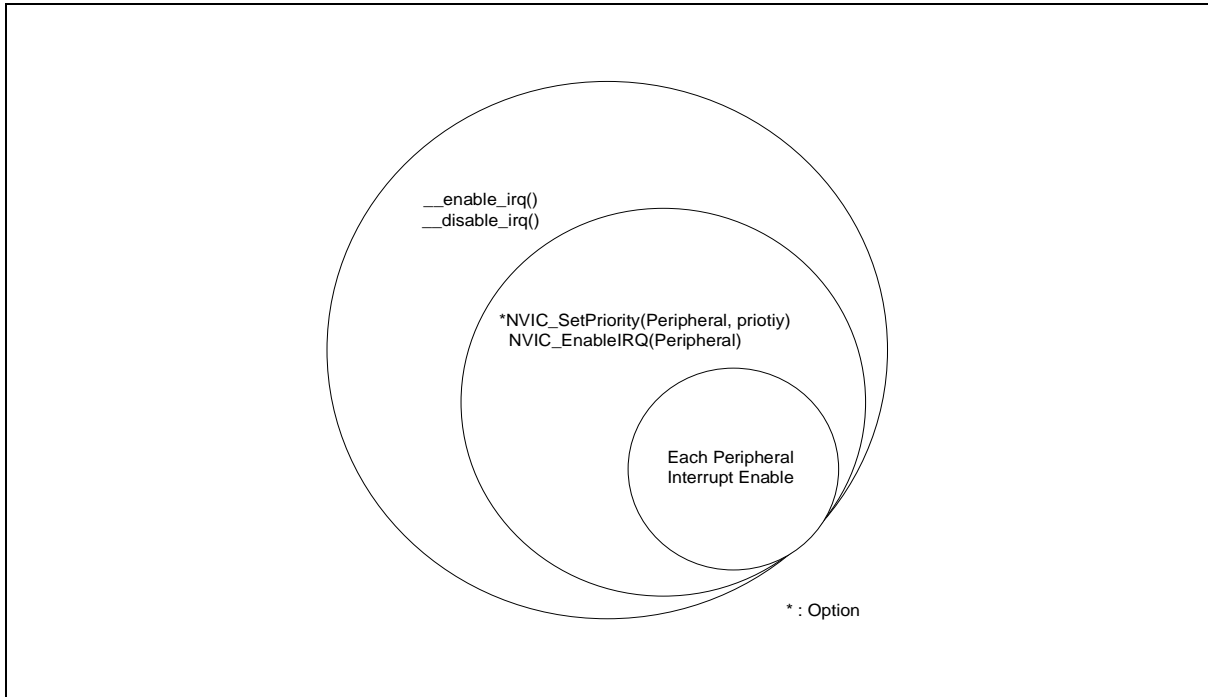

Figure 7. Interrupt Block Diagram
- Figure 7 is a caution when using Peripheral Interrupts. Interrupt don't work if only peripheral interrupts are enabled. Enable the function in core to enable interrupt.